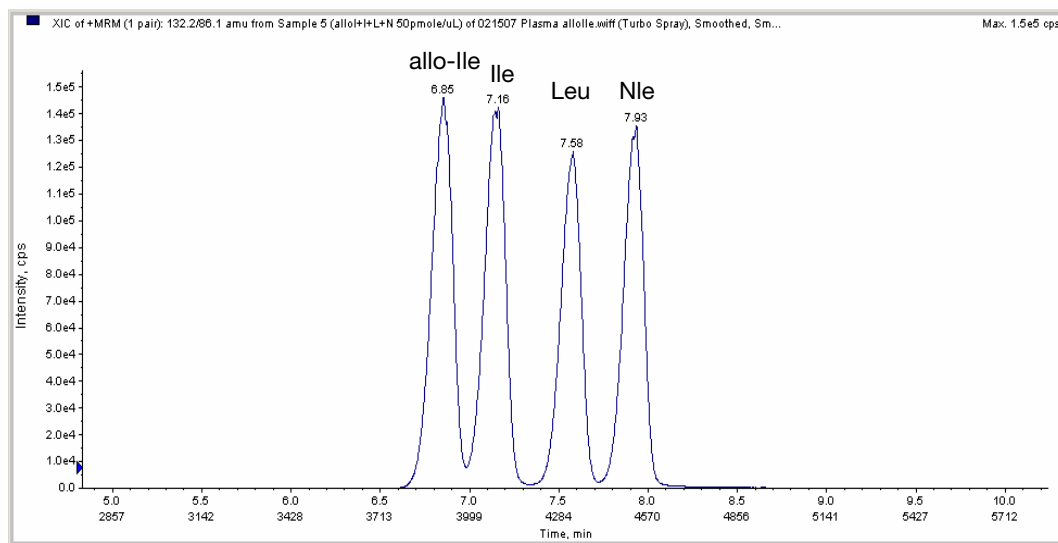

Figure 5 Representative total ion chromatograph showing optimal peak separation.
5. Review the report. Optimal peak separation yields four distinct peaks (see Figure 5) with a minimum of 0.2 min (12 sec) from peak to peak.